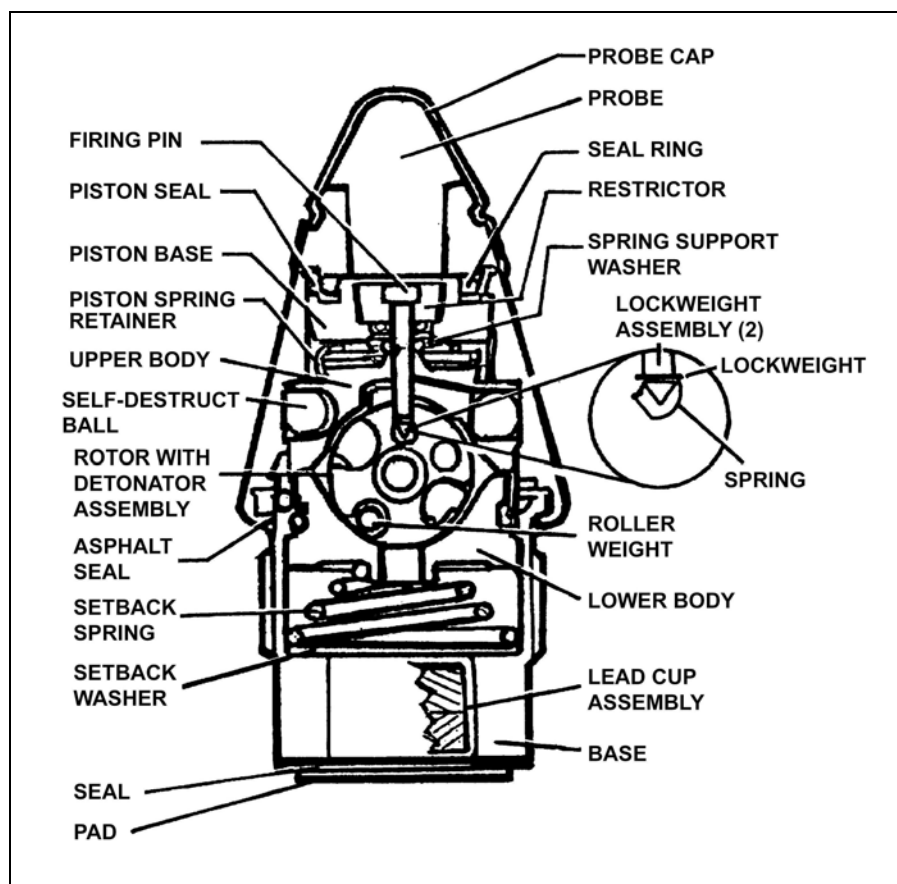
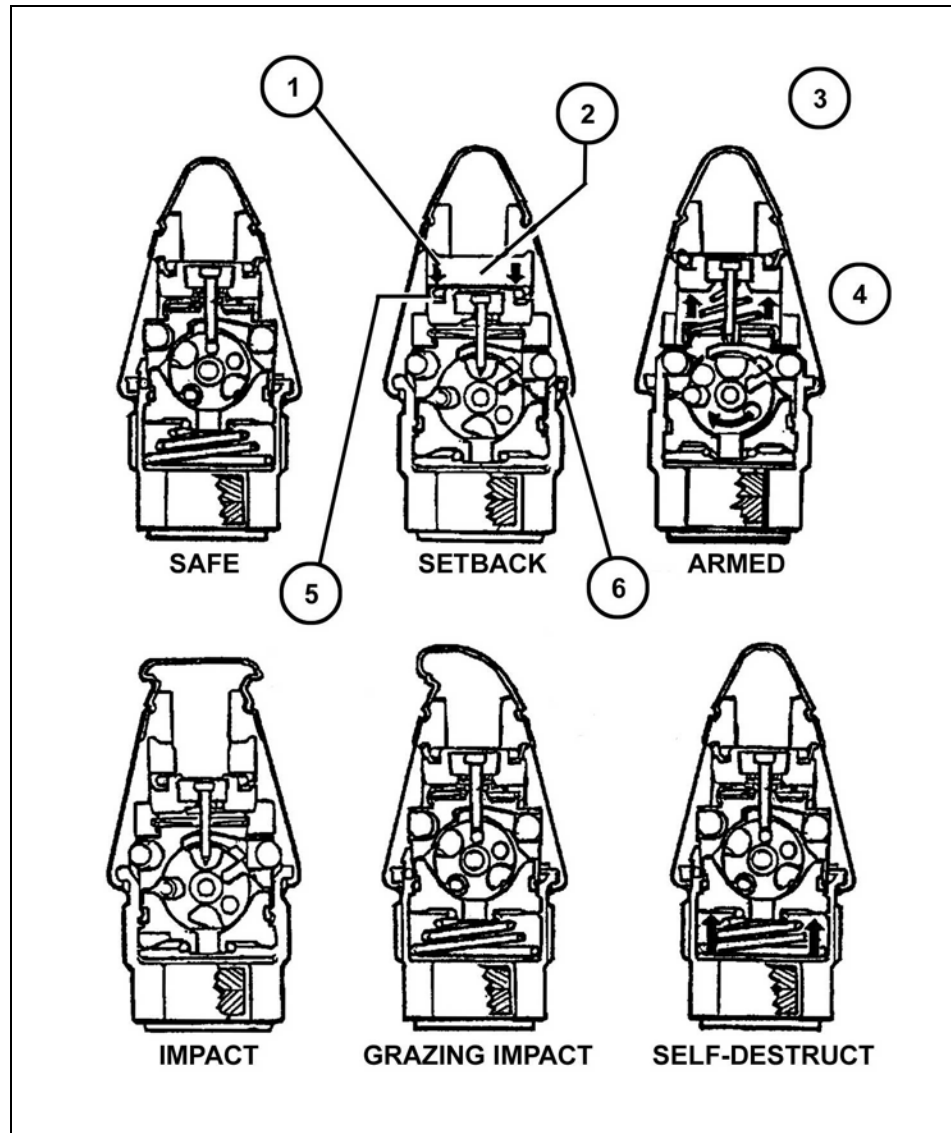

Figure 2-10. M758 HEI-T fuze.
Figure 2-11. M758 operational sequence.
(1) The HEI-T cartridge is a fixed-type, percussion-primed round. The one-piece projectile body contains HEI and is crimped onto a steel cartridge case. The hollowed steel projectile houses an M758 mechanical fuze, 32 grams of an HEI mix, and a pressed-in tracer. The projectile is yellow with a red band, black markings, and a gold tip. On some rounds, the projectile's yellow color is slightly orange near the red band.
(2) Gasses produced by the burning propellant send the projectile out of the gun at 1,100 meters per second (plus or minus 20 meters per second). On impact, the M758 mechanical fuze (Figure 2-10, page 2-16) ignites and the HEI filler detonates. This projects steel fragments from the body, rotating band assembly, and incendiary filler over a 5-meter radius.
(3) The maximum effective range for HEI-T rounds is 3,000 meters, at which range, a mechanical fuze (the M758) detonates the round. Accuracy decreases beyond 1,600 meters, and the tracer burns out at 2,000 meters. However, the round's 5-meter bursting radius and rate of fire let the firer engage either point or area targets out to the maximum effective range.
(4) The M792 HEI-T projectile can detonate in any of three ways: direct impact, grazing impact, and self-destruct (Figure 2-11, page 2-17). The piston and body assemblies are forced to aft position by the projectile's acceleration in the gun tube (1). The air is forced from the rear cavity into the newly created forward cavity (2). Air flows through the porous restrictor (3). The spin locks the rotor (4) and causes the seal to fix against the wall (5). This forces the ball outward and locks the body assembly in the rear position (6).